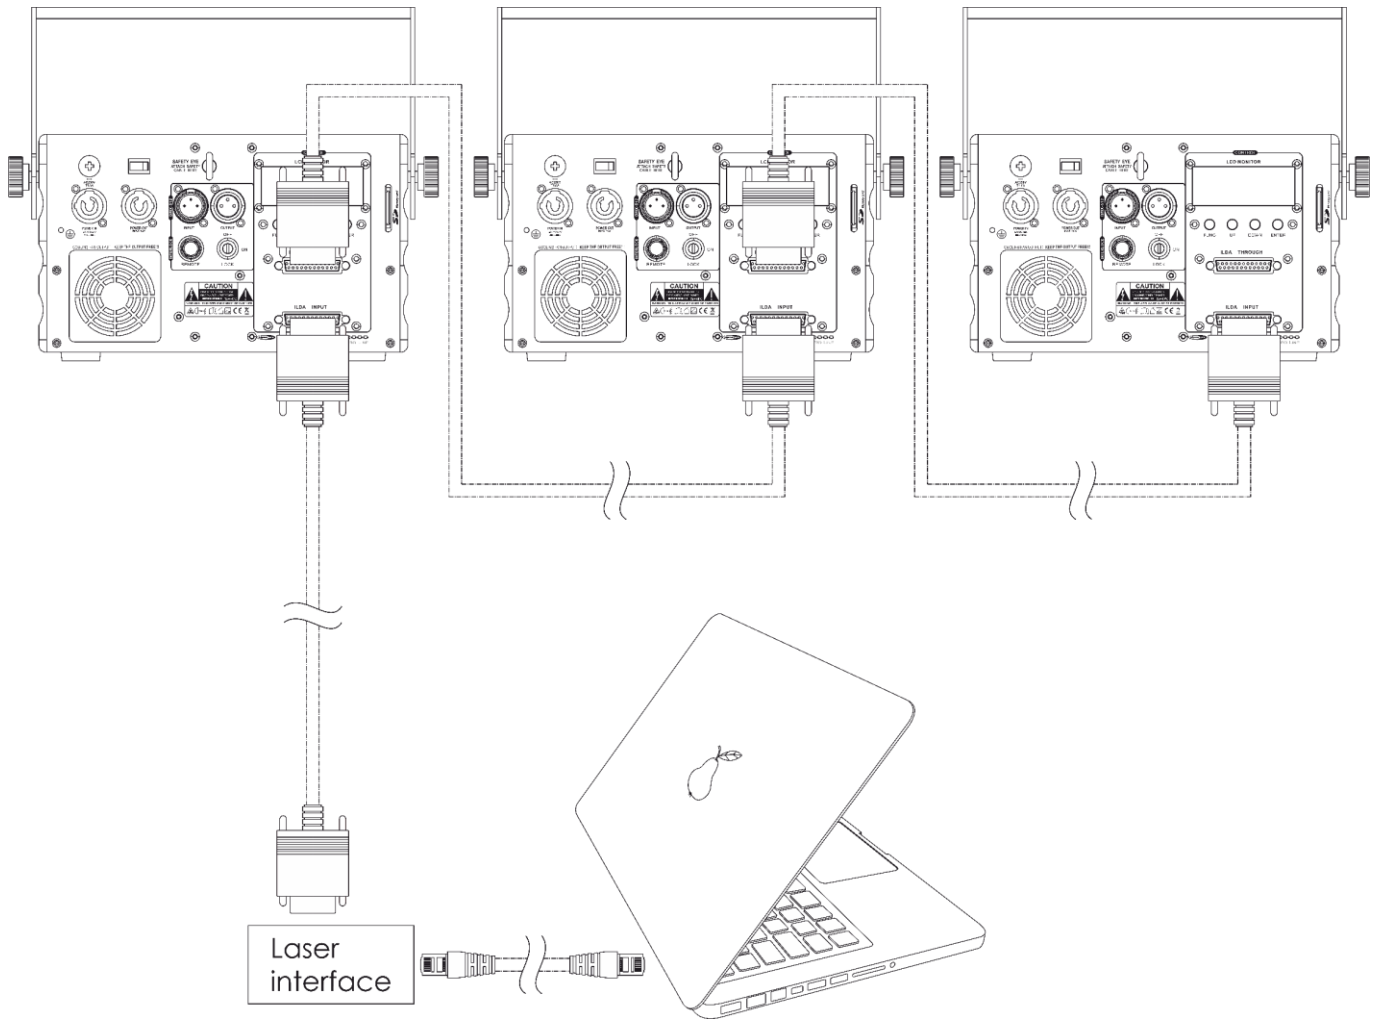

Fig. 15
- 04) Repeat step 3 to connect all devices as shown in Fig. 15.